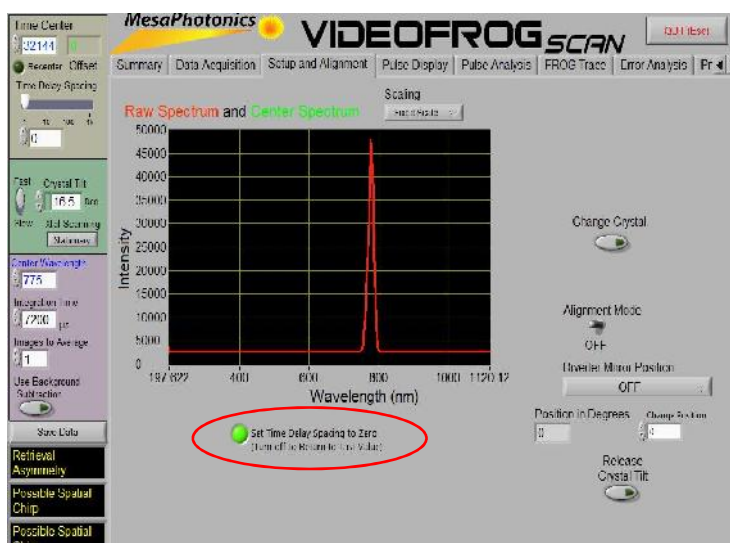

Figure 24. Raw intensity of the signal beam generated by a 1550 nm LASER displayed as a function of wavelength in the Setup and Alignment Panel.
3. To obtain a live view of the intensity of the signal beam changes as the Overlap Mirror and the Last Turning Mirror are adjusted, go to the Setup and Alignment Panel in VFS. Click the “LED” button at the bottom of the spectrogram to set the time delay spacing to “0.” If preferred, set the menu item Scaling in the Setup and Alignment Panel to Fixed Scale to fix the Y-axis (Figure 24).